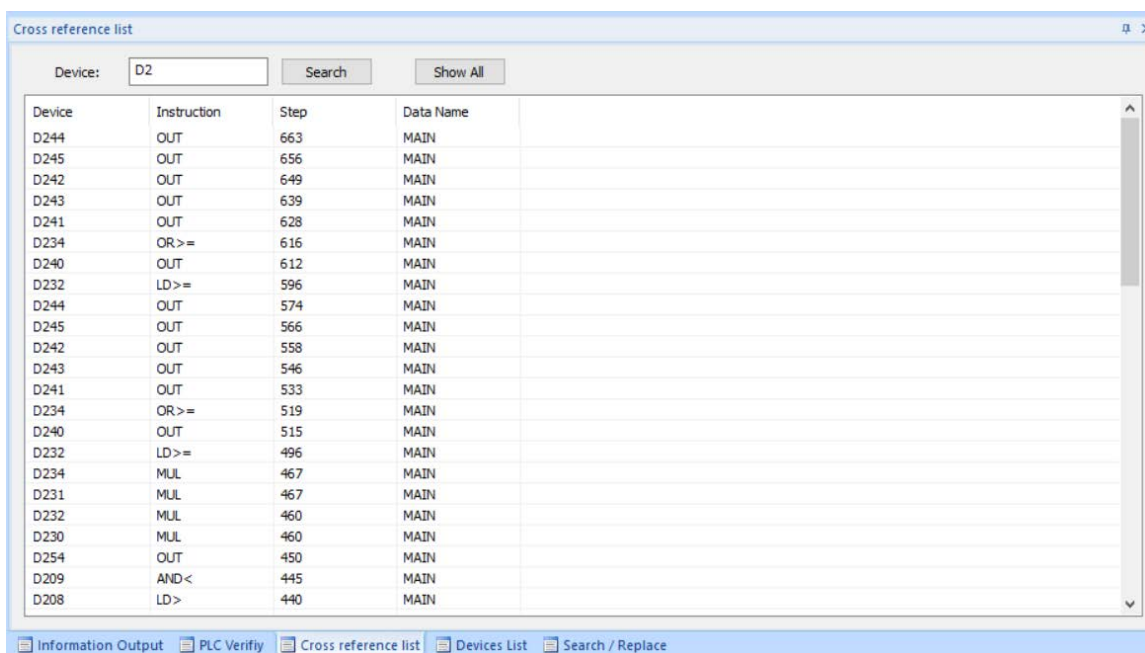

Figure 2-40
- 3) [Show All]: Click it to display all devices in current program, as Figure 2-40 shows